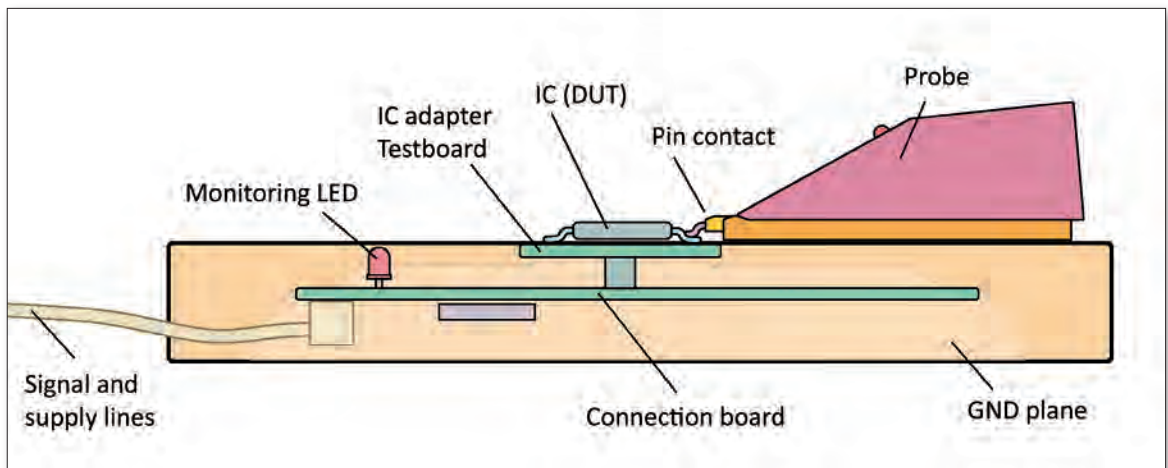

FIGURE 5: Measurement set-up with a probe to simulate the effects of magnetic coupling.
elements to ensure that the IC and its environment are decoupled. The test board is connected to the connection board. The connection board is a unit that is used to control and monitor the device under test (IC). The test board and the connection board are located in the ground plane. The ground plane is the reference ground for the tests. The device under test and the corresponding test systems (probes) can thus be properly connected under RF conditions and the measurement set-up is confined to a small space. The probes are suitable to perform both emission measurements and immunity tests (Figure 5). They are placed on the ground plane and connected to this at low impedance. The probe allows the user to contact any pin flexibly and directly. The complete measurement system is contained in the probe and does not have to be integrated in the layout of the test board.